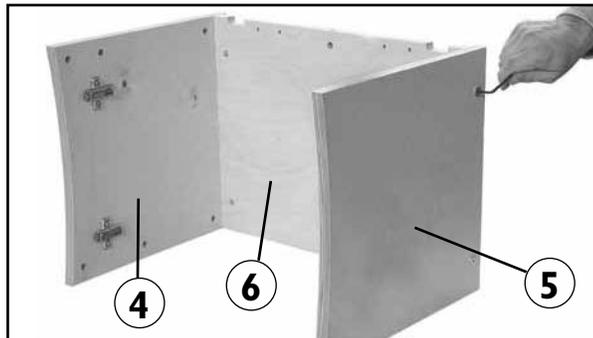

Fig. 4
4. Attach side panels to the back panel (6). The back panel has two notches that identify the top of the panel, as shown in **Fig 4**. The left panel has the hinges. Align the two holes in side panels with the corresponding holes in the back panel. Use 1/4-20 x 2" round head bolts (20) and 1/4-20 cross dowels (23). The cross dowels go in the back panel. Tighten with the included 5/32" hex wrench (32). Repeat this step for the right panel. Do not fully tighten the bolts at this time.